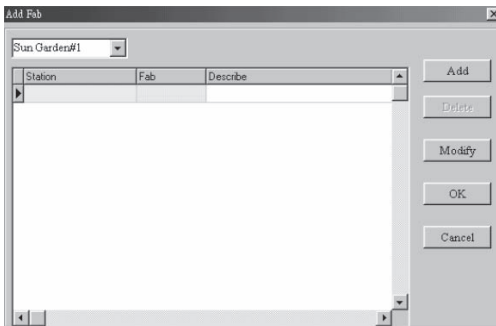

Fig. 4.6
1. Click <Monitor> <Add/delete Comat BoxX> per Fig. 4.5, or click the **quick icon**  in the Toolbar, the dialogue box, as shown in Fig. 4.6 will appear.
2. In the dialogue box, as shown in Fig. 4.6, the Station Name is displayed at the upper left hand corner. If you click “**Add**”, you can add a Comat BoxX in the station. If you click “**Delete**”, you can delete a Comat BoxX in the Station. If you click “**Modify**”, you can modify the selected Comat BoxX.